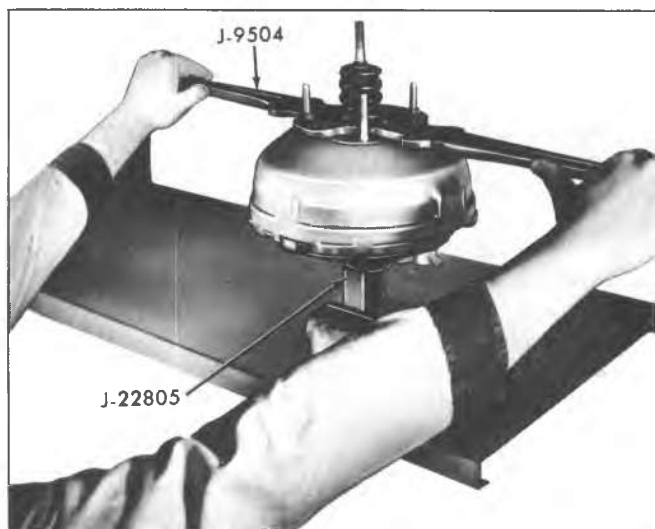

Fig. 5-2A—Unlocking Front and Rear Housings
1. Attach base of Holding Fixture J-22805 to front housing with nuts and washers and draw down tight to eliminate damage to studs. Clamp base in a bench vise with the power section up (fig. 5-2A).
a. **Straight Mounting Bracket (Fig. 5-2A)** - Place Spanner Wrench J-9504 over studs on rear housing and attach with nuts and washers. Draw nuts down tight to eliminate bending or damaging of studs.